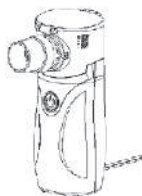

Fig. 9
1. Connect mouthpiece to the medicine tank opening (Refer to Fig.9).